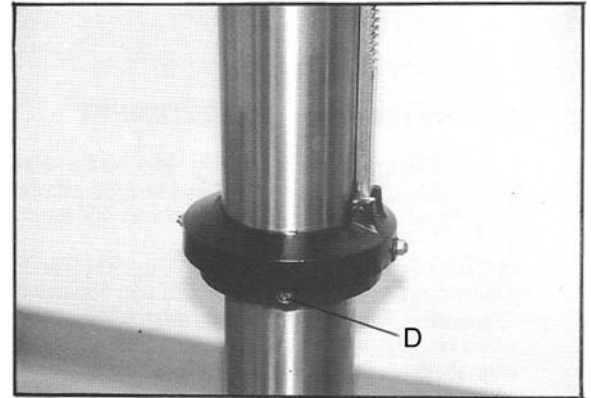

Figure 7
3. Loosen two set screws on the bottom rack ring (D, Figure 7).